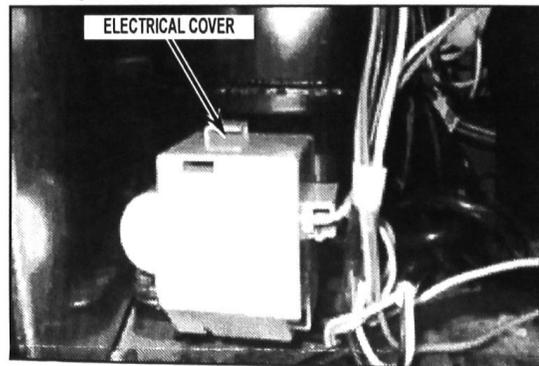

FIGURE 3
7. Remove grey electrical cover from new compressor. See Figure 3.